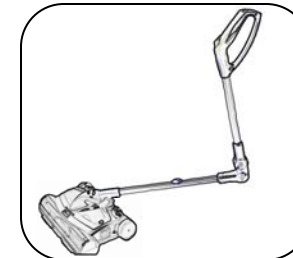

Fig. 9
5. To vacuum under furniture, press the handle release button and apply pressure in order to bend the sweeper's handle forward. The top forward folding hinge will release from the locked position for increased range of motion, allowing you to easily reach under sofas, beds, and chairs. (Fig.9)